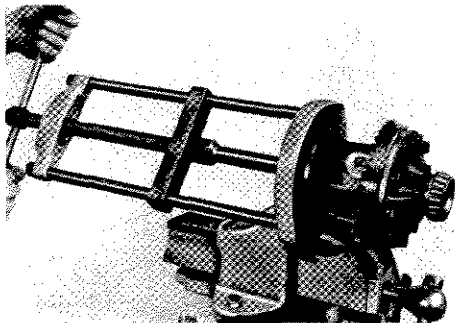

Fig. 69. Extracting the differential bearing cones
Remove the cage from the casing and extract the bearings (74), see Fig. 69. Remove the shims (73) and note the thickness and location of each shim pack. The shims are shown on Fig. 68.